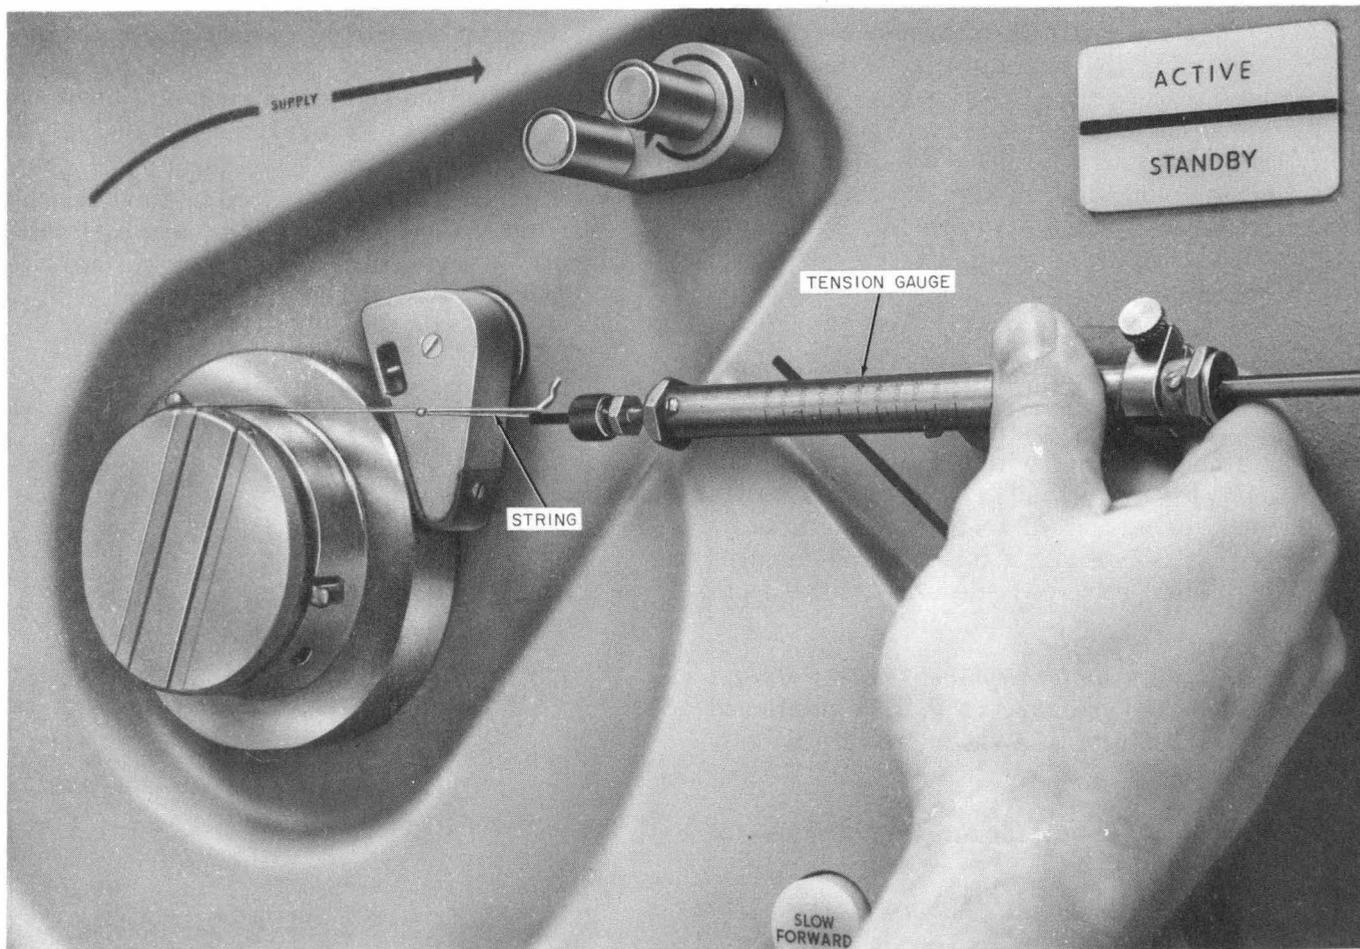

Fig. 13 — Measurement of Braking Torque — Typical
- Wrap one end of a 3-foot piece of string three or more turns around the drum surface of the hold-down knob and turntable in a clockwise direction as shown in Fig. 13.